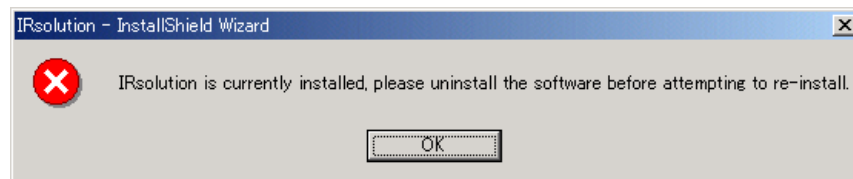

Fig. 3.2 A Message when the Old Version of IRsolution is Installed
- If an old version of IRsolution is already installed, a message shown in Fig. 3.2 is displayed. Un-install the old version of IRsolution first, and then install latest IRsolution again.